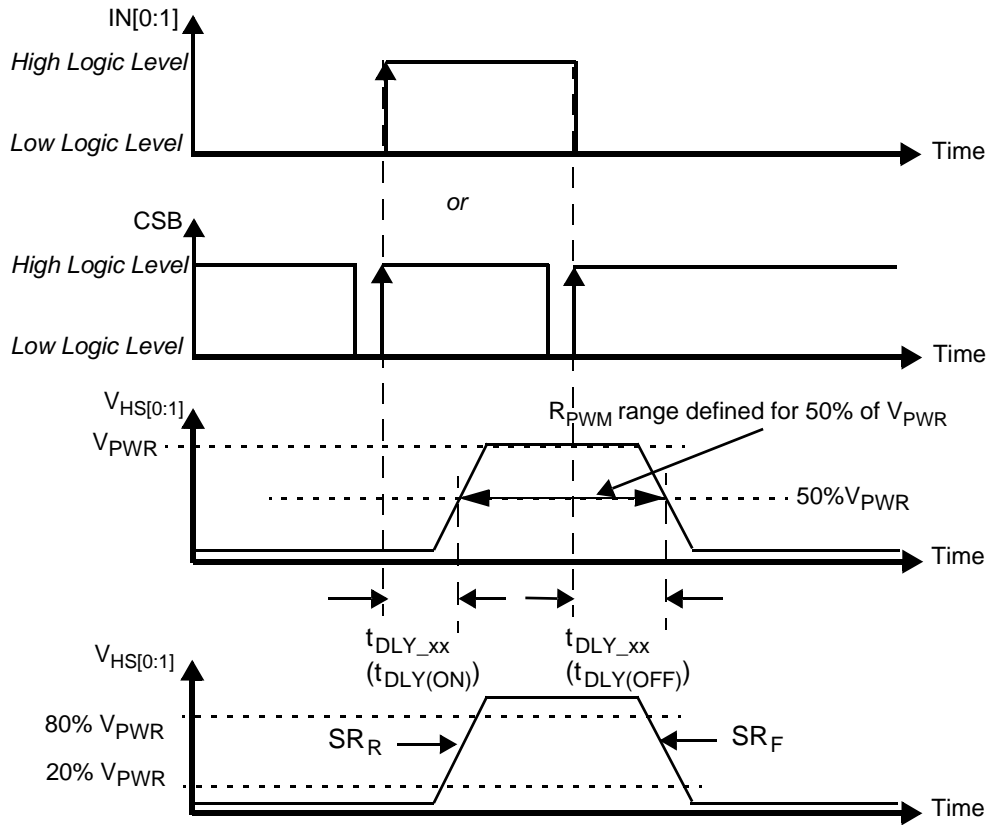
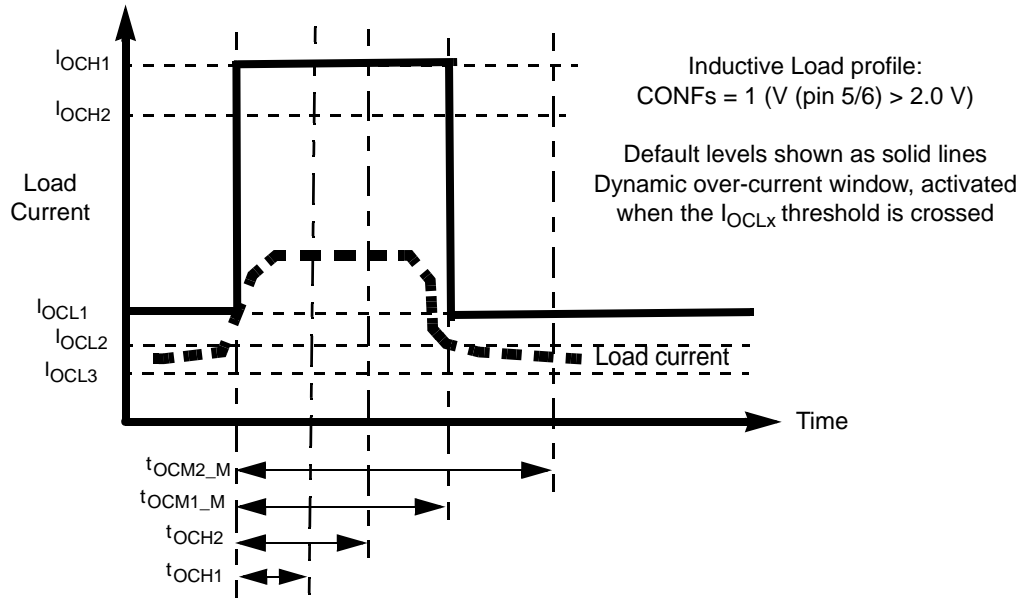
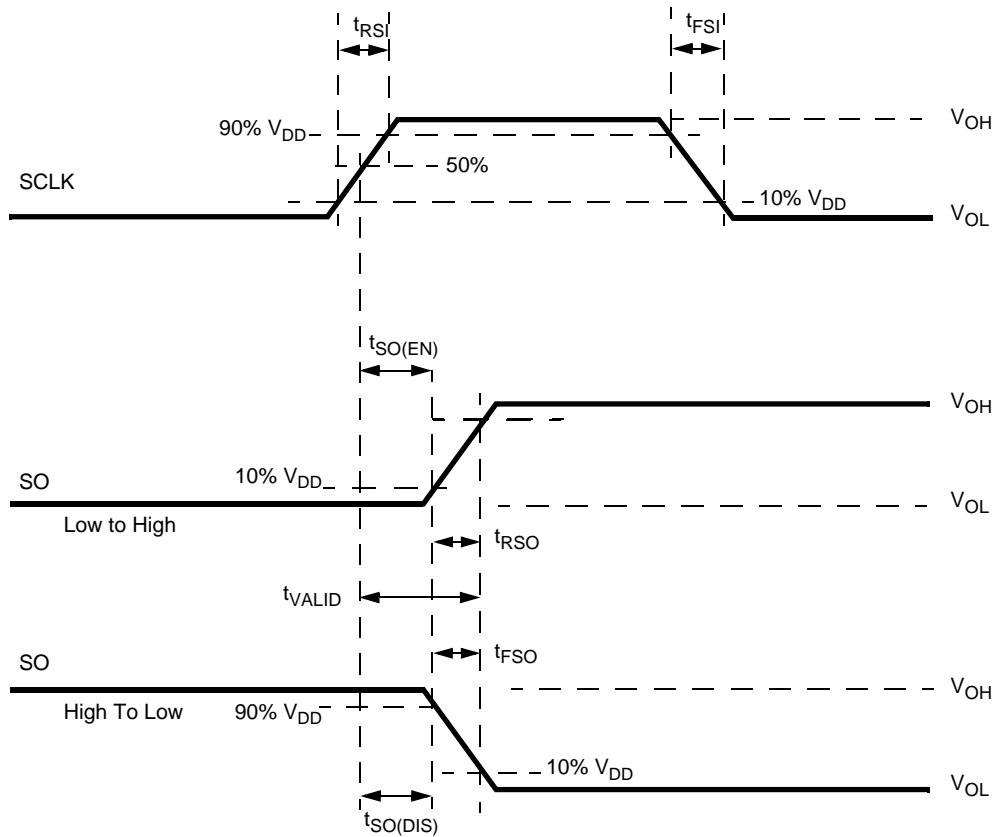

Figure 4. Output Voltage Slew Rate and Delay
Figure 6. Over-current Protection Profile for Applications with Inductive Loads (DC motors, solenoids)
Figure 8. Timing Diagram for Serial Output (SO) Data Communication
27. Rising and Falling edge slew rates specified for a 20 to 80% voltage variation on a 5.0 Ω resistive load (see Figure 4).
29. Rising and Falling edge slew rates specified for a 20 to 80% voltage variation on a 5.0 Ω resistive load (see Figure 4).
31. Time required to switch off the channel after detection of over-temperature (OT), over-current (OC), SC or UV error (time measured between start of the negative edge on the FSB pin and the falling edge on the output voltage until $V(HS[0:1]) = 50\%$ of V_{PWR}).
32. Settling time ($= t_{CSNSVAL_xx}$), SYNC output signal delay ($= t_{SYNCVAL_xx}$) and Read-out delay ($= t_{SYNREAD_xx}$) are defined for a stepped load current (100 mA < I(Load) < IOCLX A FOR CSNS_RATIO_S = 1, AND 300 mA < I(Load) < IOCLX A_0 FOR CSNS_RATIO_S = 0). (see Figure 8 and Output Current Monitoring \(CSNS\)).
The CS pin allows independent current monitoring of channel 0 or channel 1 up to the steady-state over-current threshold. It can also be used to sense the device temperature. The different functions are selected by setting bits CSNS1_en and CSNS0_en to the appropriate value (Table 21). When the CSNS pin is sensed during switch-off in the (optional) track & hold mode (see Figure 8), it will output the scaled value of the load current as it was just before turn-Off. When several devices share the same pull-down resistor, the CSNS pins of devices, the current of which is not monitored, must be tri-stated. This is accomplished by setting CSNS0_en = 0 and CSNS1_en = 0 in their GCR register (Table 11). Settling time ($t_{CSNSVAL_XX}$) is defined as the time between the instant at the middle of the output voltage's rising edge ($HS[0:1] = 50\%$ of V_{PWRR}), and the instant at which the voltage on the CSNS pin has settled to $\pm 5.0\%$ of its final value. Anytime an over-current window is active, the CSNS pin is disabled (see Over-current Detection on Resistive and Inductive Loads). The current and temperature sensing functions are unavailable in Fail-safe mode and in Normal mode when operating without the V_{DD} supply voltage. In order to generate a voltage output, this pin requires a pull-down resistor ($R(CSNS)=1.0\text{ k}\Omega$ typ. and $470 < R(CSNS) < 10\text{ k}$). When the current sense resistor connected to the CSNS pin is disconnected, the CSNS voltage is clamped to $V_{CL(CSNS)}$. The CSNS pin can source currents up to about 5.6 mA.
edge of CSB. The SO output driver is enabled when CSB is logic [0]. CSB should transition from a logic [1] to a logic [0] state only when SCLK is at logic [0]. CSB is internally pulled up to V_{DD} through I_{UP} . (see Figure 6 and Figure 8)